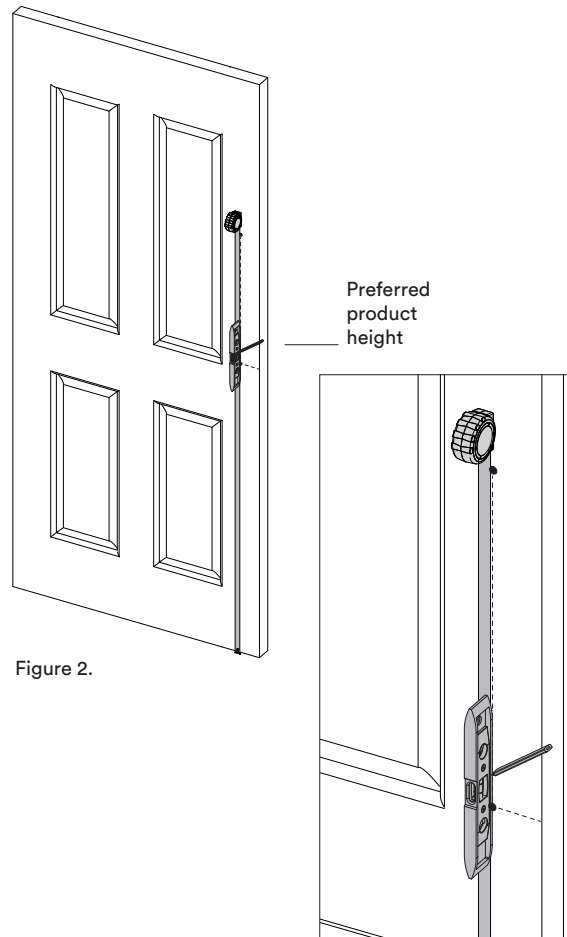

Figure 2.
- 2.2. In most instances, the horizontal position should align with the centre of the door stile on a panel door or with any lock, turn or escutcheon fitted to the door. (Figure 2)